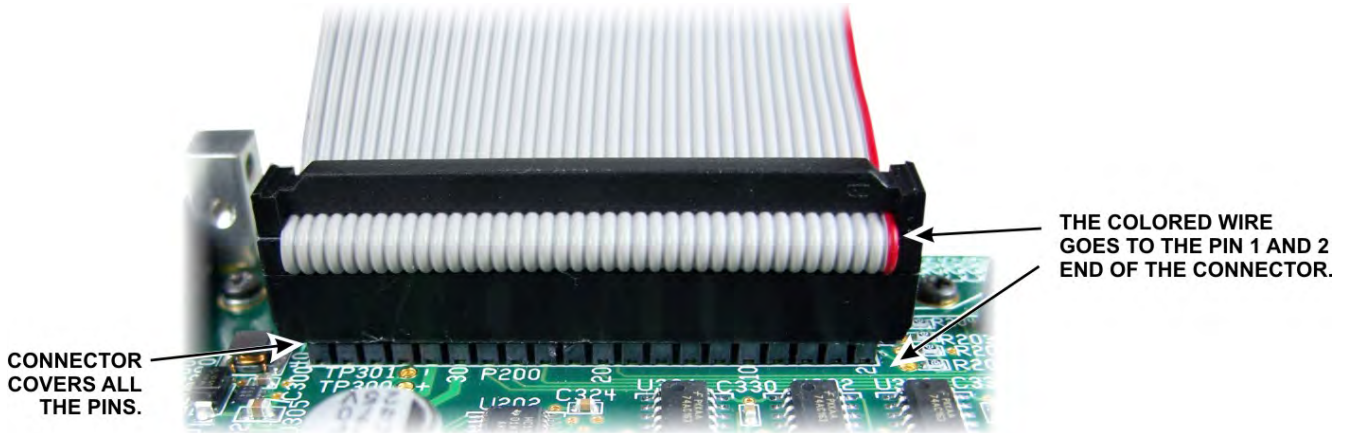

Figure 16. Mating the 40-pin Connectors.
- Plug the ribbon cable into P200 on the display board with the colored edge of the cable at Pin 1 (the bottom of the connector when the board is oriented normally). Be sure the connectors are properly aligned so all pins engage and they are fully mated as shown in Figure 16). One pin has been removed from the connector on the pc board and the corresponding hole in the cable connector is plugged to help ensure they are properly aligned end-to-end but check carefully to ensure the connector is mated to both rows of pins.
- Plug the free end of the ribbon cable into P504 on the I/O board. Be sure the red edge is at the Pin 1 end of the connector (the end nearest the bottom). To avoid stressing the board, support it with your fingers while mating the connector by placing your fingers on the side of the board opposite the connector and squeezing the connector in place with your thumbs. Be sure the connectors are properly aligned so that all pins engage the cable connector just as you did on the display board (see Figure 16).